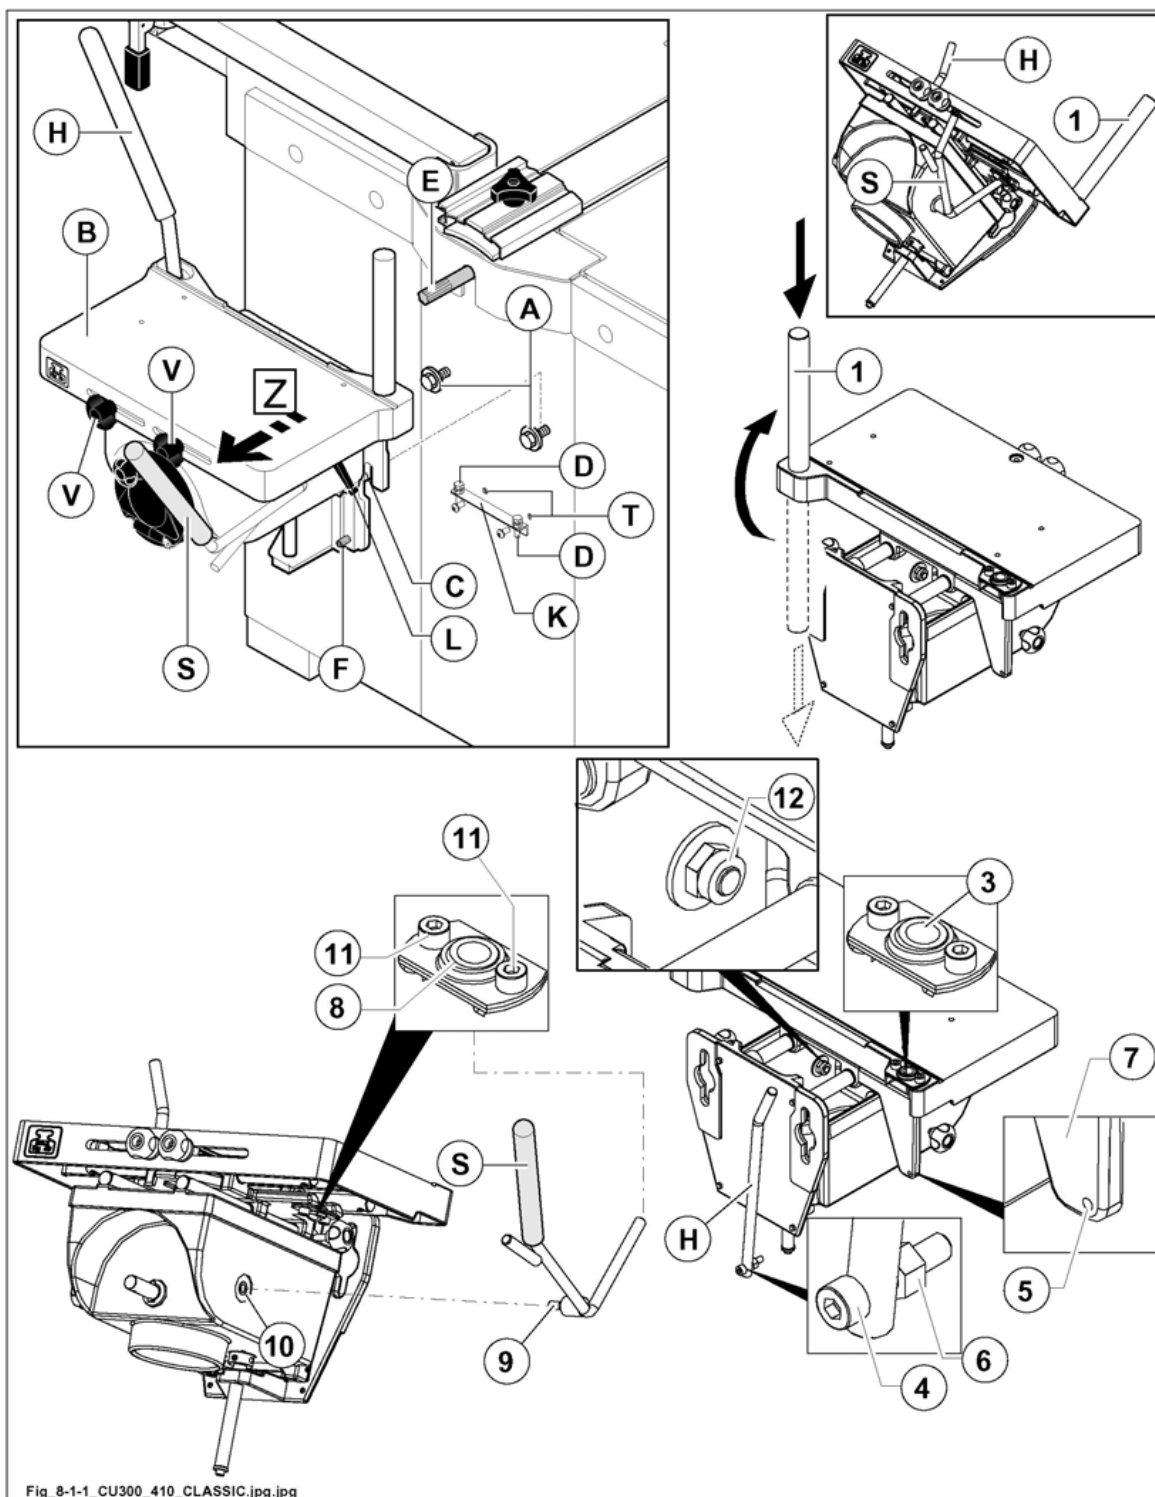

Fig. 8.1-1
Move the table in the direction of the arrow Z and block by tightening lever (L fig. 8.1-1) (turn to stop first); press the two side pins all the way in and tighten the 2 knobs (V fig. 8.1-1).
where supplied, fit the angle (K fig. 8.1-1) using the special holes (T fig. 8.1-1).
- 1) Prepare the screws (A fig. 8.1-1) and the relative grommets on the base of the machine.
- 2) Raise the mortiser (B fig. 8.1-1) and fit the dovetail slide (C fig. 8.1-1) on the heads of screws (A fig. 8.1-1).
- 3) Fit levers (H and S fig. 8.1-1).
Lever (S fig. 8.1-1):
- the lever (S fig. 8.1-1) is partially assembled in the factory by inserting one end in the joint (8 fig. 8.1-1);
- loosen the screws (11 fig. 8.1-1);
- insert the pin (9 fig. 8.1-1) in the hole (10 fig. 8.1-1);
- tighten the screws (11 fig. 8.1-1);
- tighten the nut (12 fig. 8.1-1) leaving as little play as possible.
Lever (H fig. 8.1-1):
- insert the lever (H fig. 8.1-1) in the joint (3 fig. 8.1-1);
- tighten the screw (4 fig. 8.1-1) in the hole (5 fig. 8.1-1) so that the lever (H fig. 8.1-1) has as little play as possible;
- tighten the nut (6 fig. 8.1-1) on the part (7 fig. 8.1-1).
- 4) Screw down the screws (A fig. 8.1-1) until joining the mortising machine to the base and adjust the parallelism of the table with respect to the bit (E fig. 8.1-1) (see "Spindle bits - assembly" par. 8.1.2) acting on the screws (D fig. 8.1-1) and on the four grub screws (F fig. 8.1-1).
- 5) Check proper adjustment by moving the working table transversally, and tighten the screws (A fig. 8.1-1).
- 6) Ensure that the four grub screws (F fig. 8.1-1) rest on the base.
- 7) Reposition the pin (1 fig. 8.1-1), presser belt support, as shown in the figure.